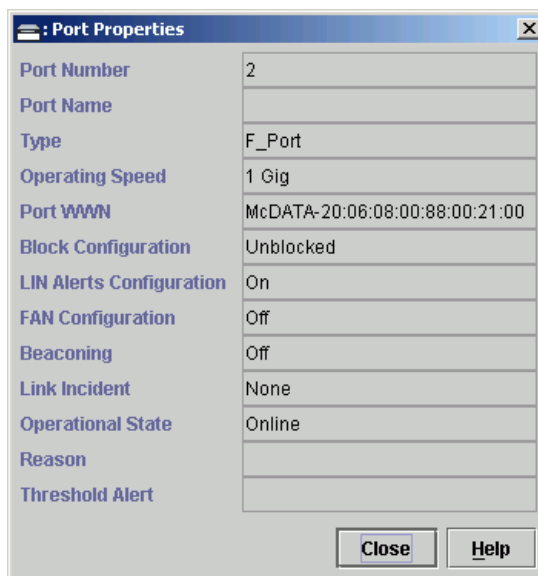

Figure 2-113 Port Properties Dialog Box
9. Double-click the graphical port connector used for the fabric ISL (connected in step 5). The *Port Properties* dialog box displays (Figure 2-113).